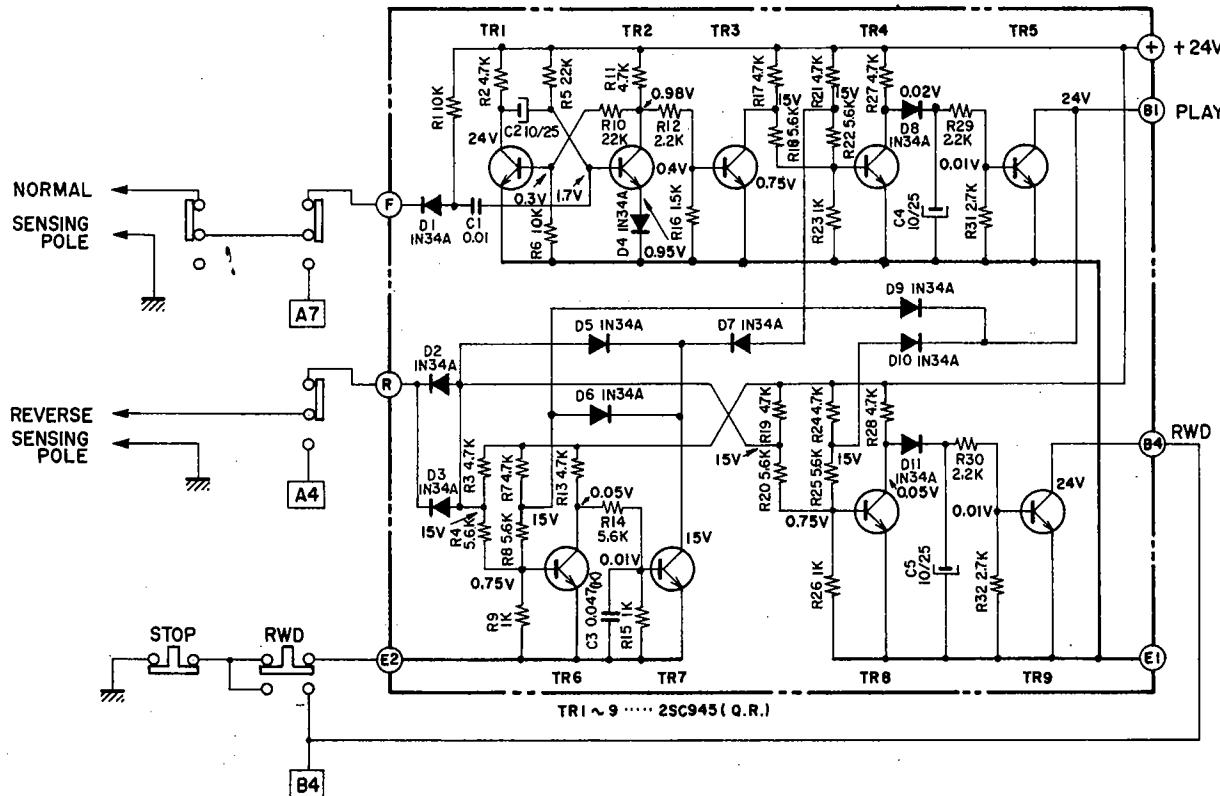

Fig. 33 4-CHANNEL REPEAT CIRCUIT
5. 4-CHANNEL REPEAT CIRCUIT (See Figs. 33 and Chart 2)